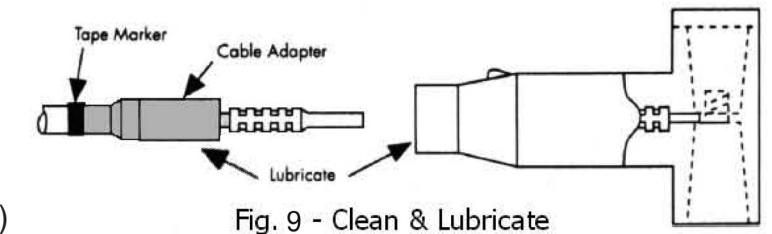

Fig. 9 - Clean & Lubricate
A. Clean and lubricate the cable entrance of the T-Body and the outside of the cable adapter with supplied lubricant. (See Figure 9.)